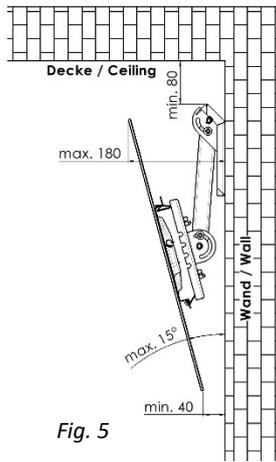

Fig. 5
4. Wall mounting option horizontally under the ceiling (Fig.5)